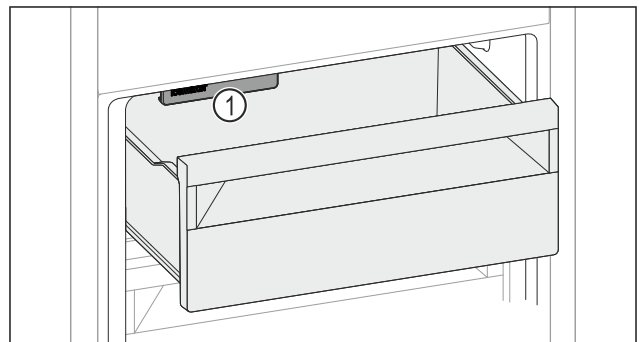

Fig. 163
- Watch out for the IceMaker Fig. 163 (1).